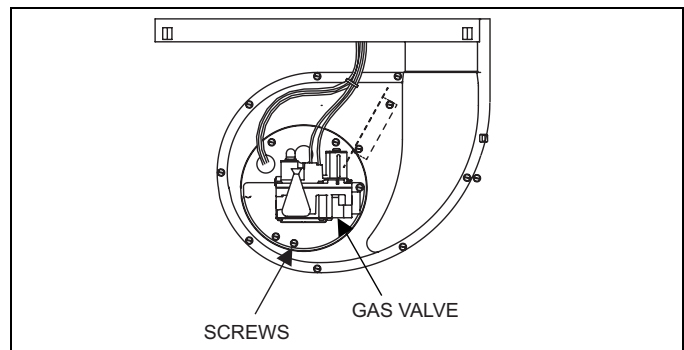

FIGURE 15: Burner Assembly
4. Remove the four screws that attach the gas manifold to the burner support box. See Figure 15.